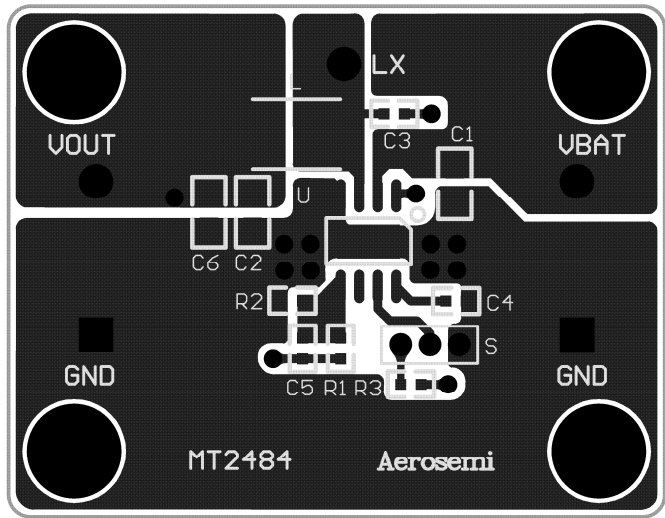

Figure 4. Evaluation Board Top Layer
PCB layout is very important to achieve stable operation. It is highly recommended to duplicate EVB layout for optimum performance. If change is necessary, please follow these guidelines and take Figure 4 to Figure 5 for reference.
- 6) An example of 2-layer PCB layout is shown in Figure 4 to Figure 5 for reference.